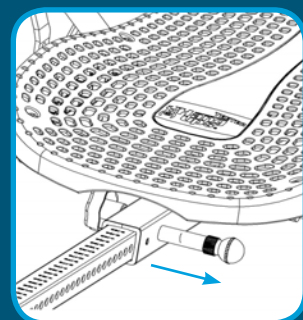

Figure 2
- Pull out the Height-Selector Locking Pin with your right hand while sliding the Main Shaft with your left (Figure 2).